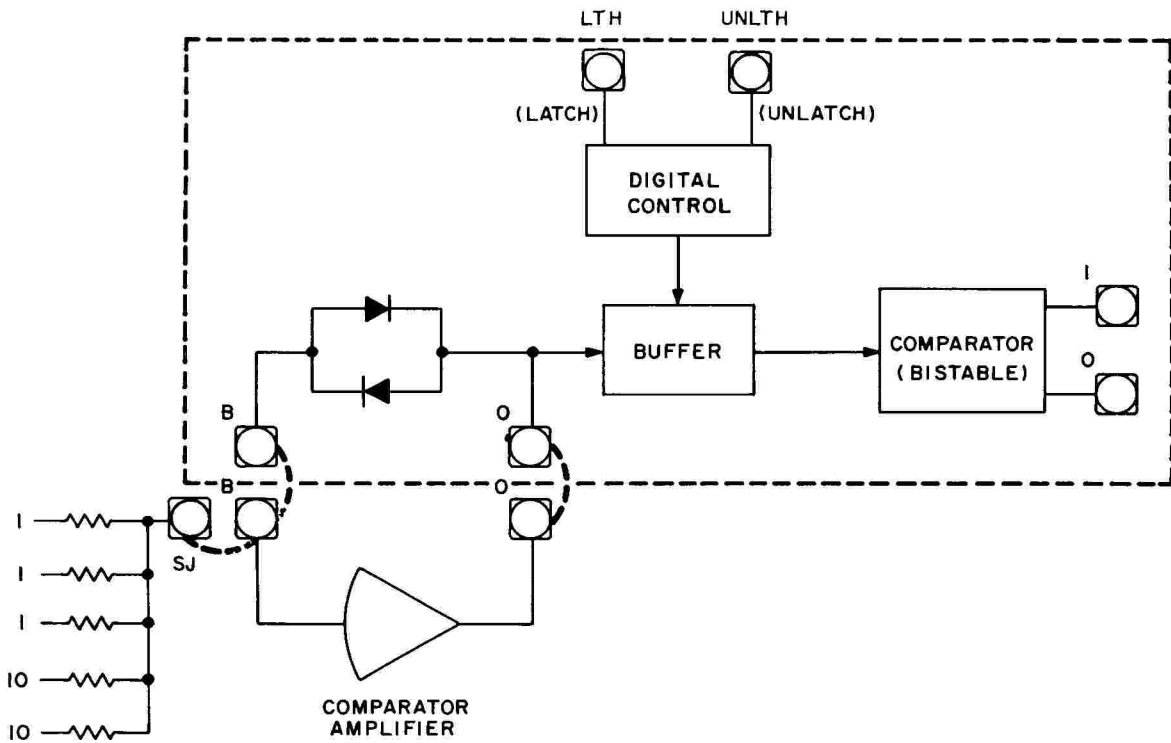

Figure 45. Comparator Unit, Functional Block Diagram
(1) Comparator Circuit. A simplified block diagram of the comparator is shown in Figure 45. The analog signals to be compared are applied to the summing junction of an amplifier. The amplifier is supplied with a special feedback network within the comparator consisting of two back-to-back diodes. Since it requires approximately 0.6 volts to cause either of the diodes to conduct, the amplifier gain is essentially equal to "open loop" gain between the output range of -0.6 to +0.6 volt. Therefore, if the sum of the analog inputs to the amplifier goes even slightly positive, the amplifier output goes instantly negative to -0.6 volt. This change is coupled through the buffer to the flip-flop circuit, and causes the output designated 1 to go to binary ONE (+5.0 volts). The output designated 0 goes to binary ZERO simultaneously.